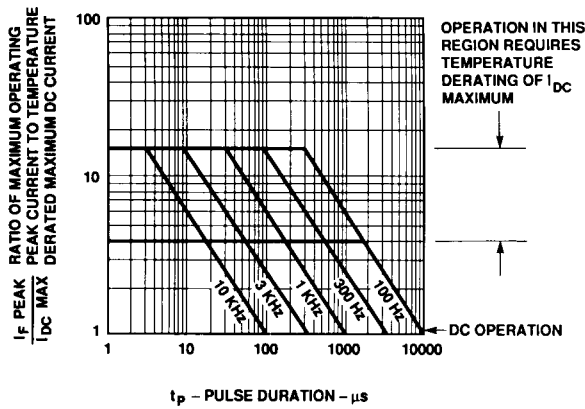

Figure 1. Maximum Tolerable Peak Current vs. Pulse Duration – AlGaAs Red.
- See Figure 1 to establish pulsed conditions.